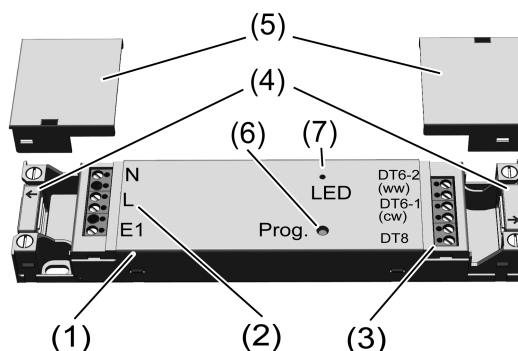

Figure 1
- Fit a strain relief (4) on the input and output side and snap on the cover caps (5) (Figure 1).